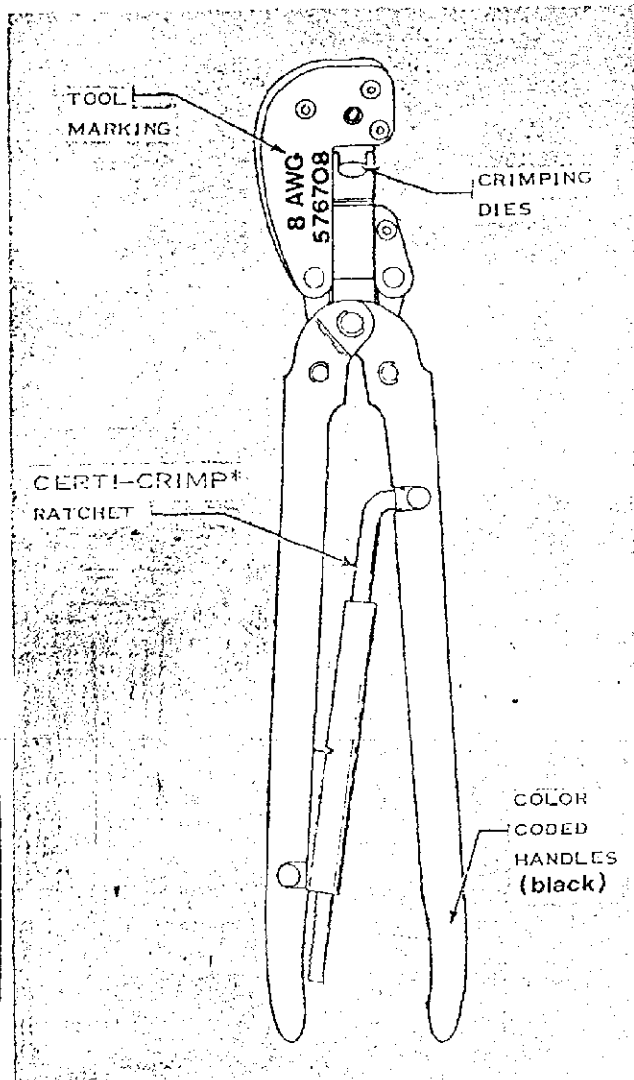

FIG. 1
1. The Tool shown in Figure 1 is used to crimp A-MP Closed End Splice No. 825036